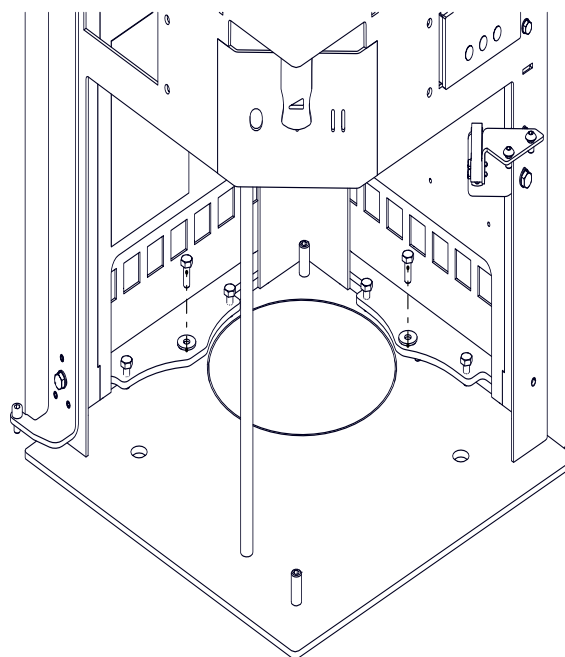

Fig.2
- Unscrew 2x fastening screws for the back panel and the side panel in the bottom of the unit (see Fig.2).